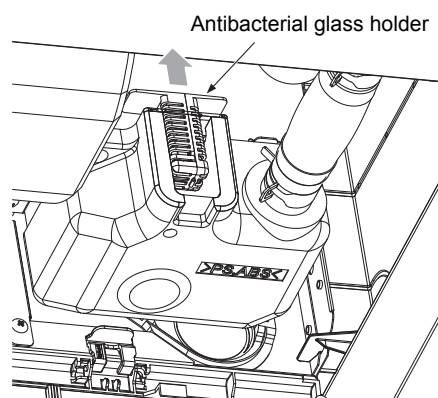

Fig.3
- 3** Remove the antibacterial glass holder that is hanging inside the drain pump kit through the hole that is in the top. (Refer to Fig.3)